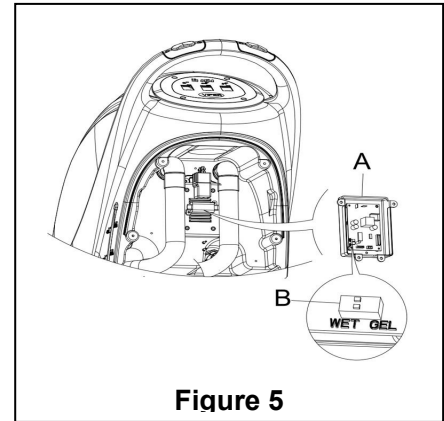

Figure 5
2. Take off draining hose (15)
4. Take off the control cover (5), and the screws of the battery cover (10). Remove the screws on the PCB stand. The DIP switch (B) for setting the battery model can be seen when flipping over the PCB board. (See Figure 5)
5. Adjust the micro DIP switch (B) to the position of "WET",